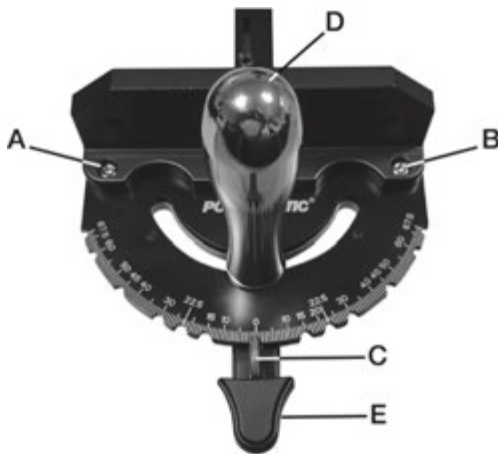

Figure 18C
2. Loosen screws A and B as shown in Figure 18C.
Adjusting Miter Gauge Angle for Operations (model PM1000T, refer to Figure 18C):